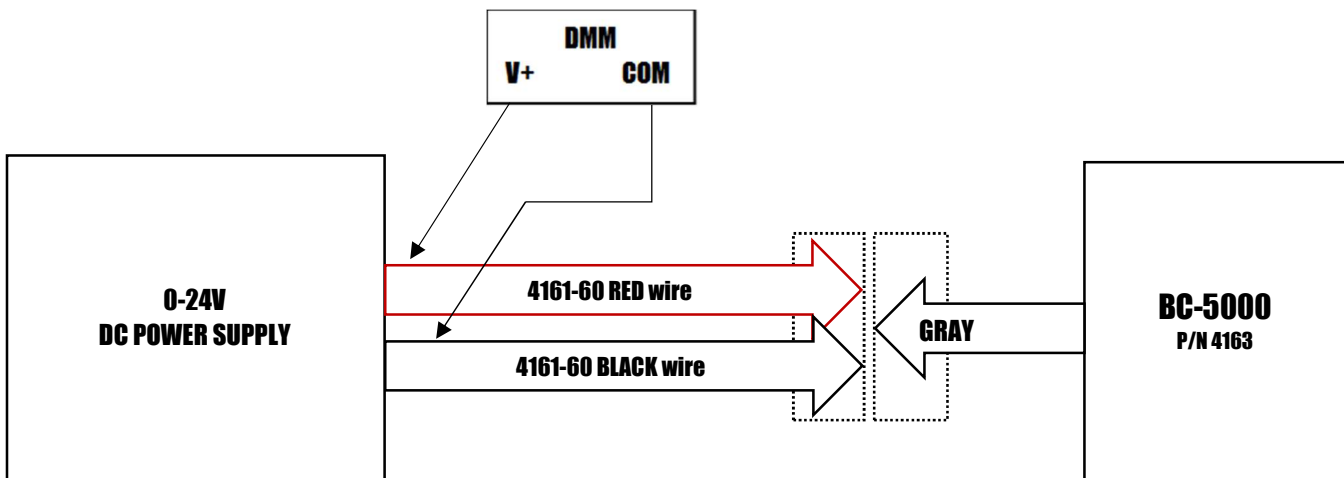

Figure 4
2. Connect the battery adaptor P/N 4161-60 to the 0-24-volt DC power supply DC output. The P/N 4161-60 RED lead to power supply V+ and BLACK lead to GND. Plug the BC-5000 GRAY connector into the GRAY connector of the P/N 4161-60. See Figure 4